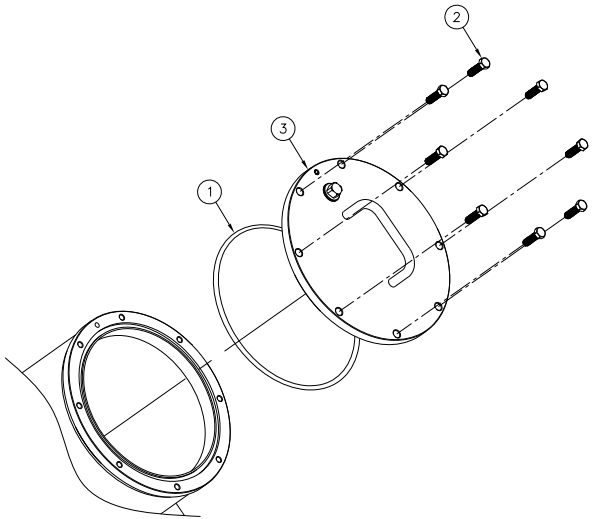

Figure 3
6. Inspect the lid o-ring (Figure 3, item 1) for damage and replace if necessary.
Table for Figure 3 – Lid Closure and Gasket